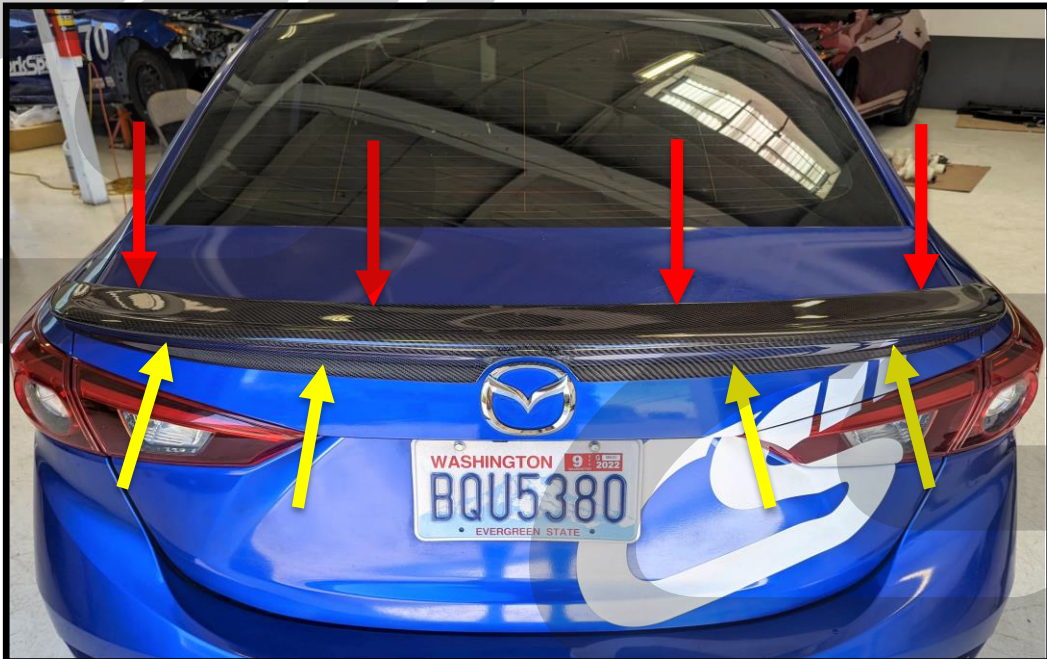

Figure 3b
- Push the lip to the front of the car to fully adhere the double sided tape to the back side of the trunk as seen in **Figure 3b** with the yellow arrows.
- Now push the front edge of the lip downwards as shown in **Figure 3b** with red arrows to ensure good adhesion of the lip.